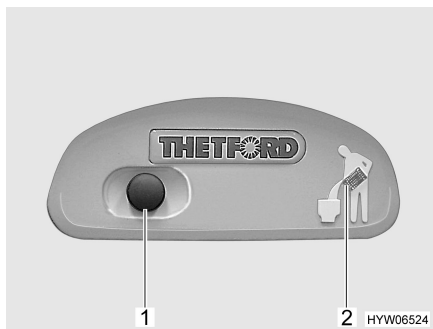
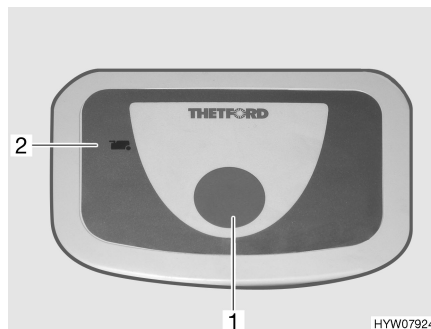

Fig. 75 Flush button/indicator lamp Thetford toilet
Fig. 76 Flush button/indicator lamp Thetford toilet (alternative)
- For flushing, press the blue flush button (Fig. 75,1 or Fig. 76,1).
The indicator lamp (Fig. 75,2 or Fig. 76,2) goes on whenever the sewage tank has to be emptied.